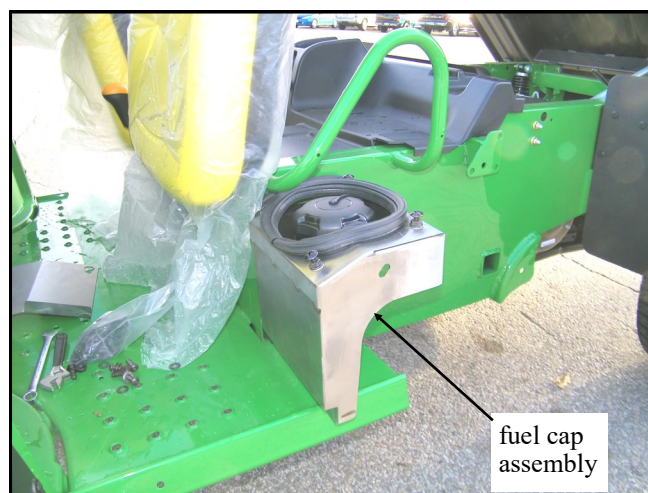

Fig. 6.1
6.1 Remove the cover and loosely position the fuel cap assembly as shown in figure 6.1. NOTE: if your vehicle is model year 2010 or older with the choke under the seat, call Curtis for p/n: 8SV-JDTS04-B4 and p/n: 8SV-JDTS08-B4 which is the appropriate Fuel Cap version that you will need.